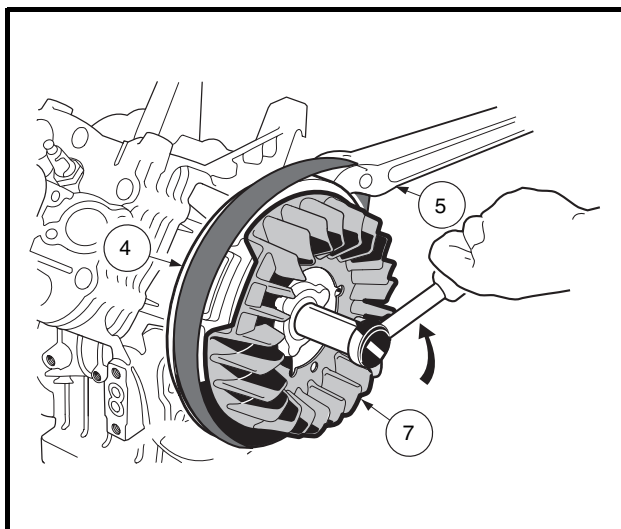

Figure 13-9 Flywheel Nut
3. Hold the flywheel (4), not the fan (7), with a strap wrench (5) and, using a 25 mm socket, remove the flywheel nut (and flat washer) by turning it counterclockwise (**Figure 13-9, Page 13-7**). **See following CAUTION.**